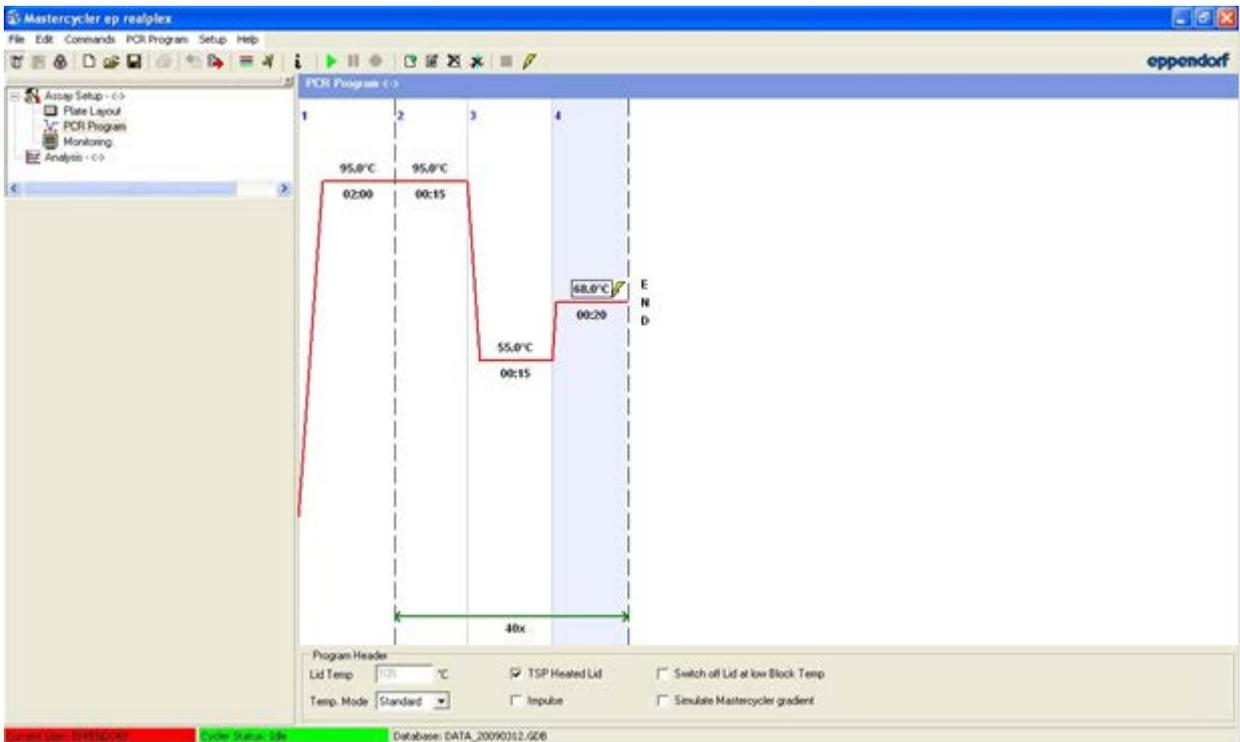

Figure 4. PCR Program window.
8. Select PCR Program in the navigator window at the upper left corner of the screen. The default PCR program will appear (Figure 4).